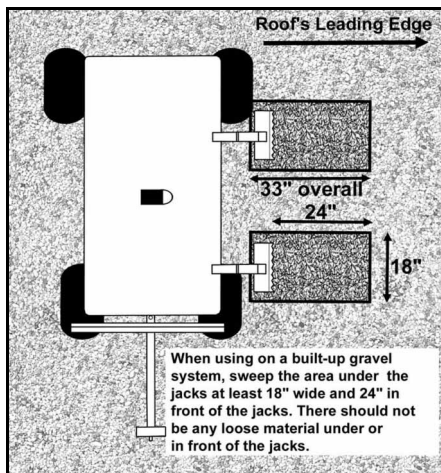

Fig. 1
**WARNING #2:** When using on a built-up gravel system, sweep loose gravel away from under the jack's feet plus twenty four inches in front of the feet. (Refer to fig. 1)